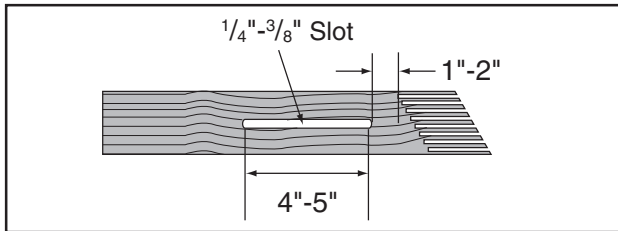

Figure 92. Slot routed in featherboard.
4. Rout a $\frac{1}{4}$ "– $\frac{3}{8}$ " wide slot 4"–5" long in the workpiece and 1"–2" from the short end of the featherboard (see **Figure 92**).